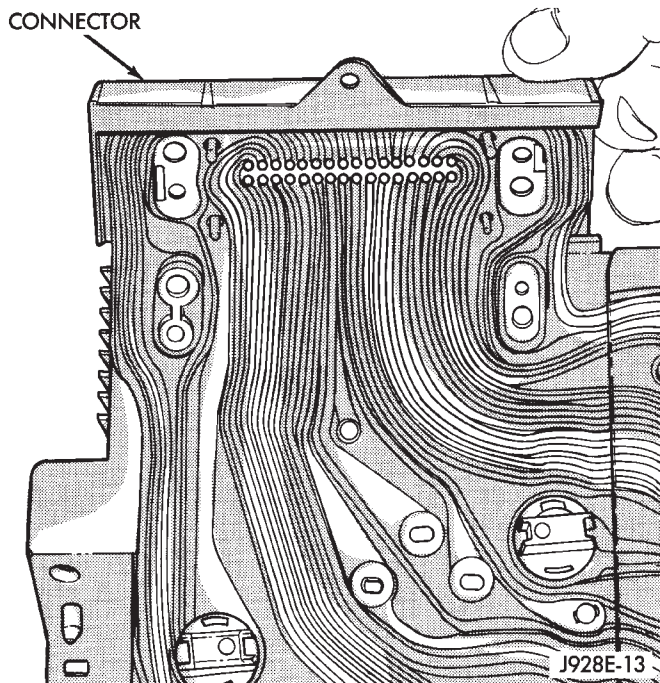

Fig. 8 Printed Circuit And Cluster Connector
(7) Remove the lamp sockets from the circuit board.
(8) Lift the connector up to unfold the printed circuit (Fig. 8). Remove the printed circuit including the connector.